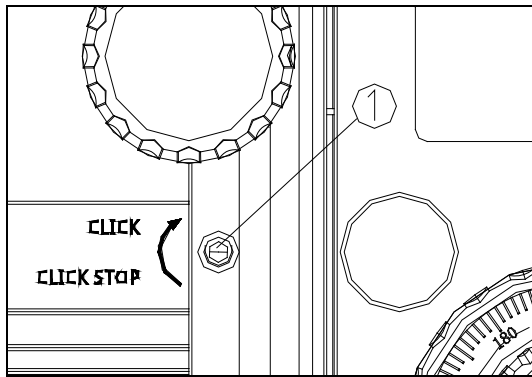

Fig.19
1. To turn on the click-stop function, rotate the screw (1) clockwise (as the arrow shows) until tight with an inner hexagon spanner. (See Fig. 19)
3. To turn off the click-stop function, rotate the screw (1) counter-clockwise (in the opposite direction of arrowhead) for two rotations. (See Fig. 19)
- Note: Do not over-rotate the screw (1), otherwise it will damage the housing and internal mechanisms of the microscope.